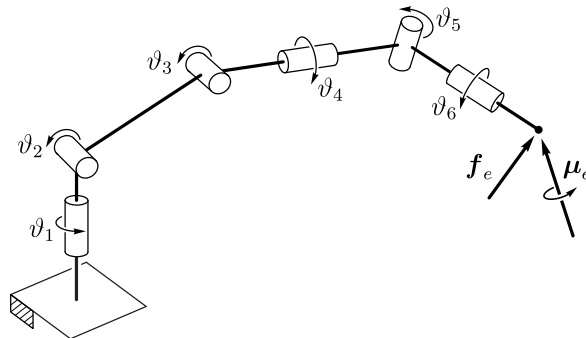

Figure 4: Anthropomorphic manipulator with spherical wrist.
4. [Computer Aided Problem] Consider the manipulator illustrated in Figure 4.